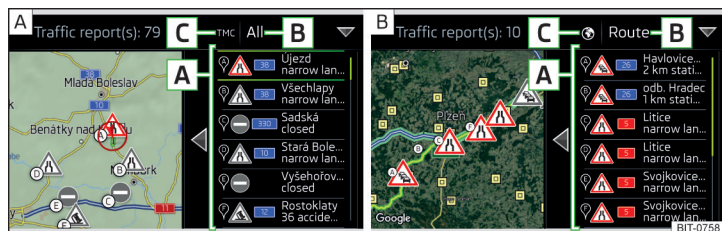

Fig. 224 List of traffic reports: TMC source/online source
In the list of traffic reports and in the map, a max. of 6 reports are displayed. These are provided with a letter and the traffic obstruction symbol (e.g. , ) » Fig. 224.
On the position **C** » Fig. 224 can the following symbols be displayed.
► **Route guidance is taking place** - After tapping the function surface **B** » Fig. 224 in the displayed menu all traffic messages can be selected by tapping the function surface **All**, or by tapping the function surface **route**. Only the traffic messages present on the route can be selected.